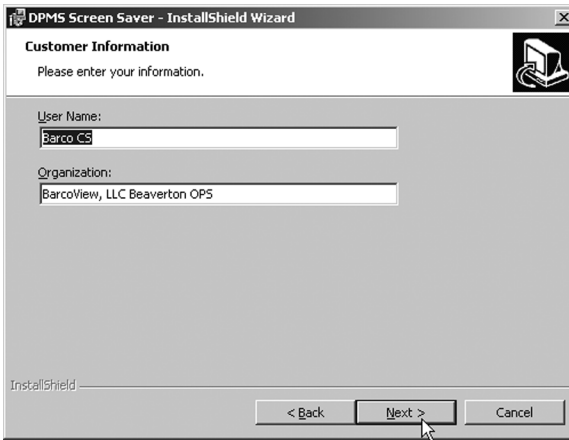

Figure 23
19. The “Customer Information” screen will appear (see figure 23 on the next page). The Installer will automatically fill in the blanks using the information entered when Windows was installed on your system. You may change this information if you wish. Click “**Next**” to continue.